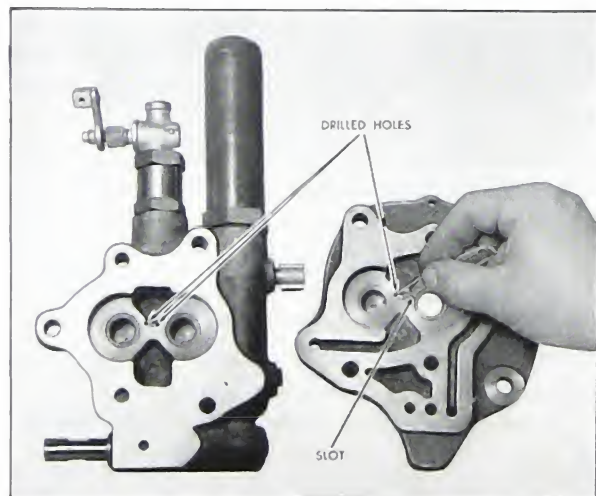

Fig. 5-84. Drilled holes for lubrication
Lubricating Holes: 1. With a small wire or punch, clean out the small lubricating holes to both sets of gear pockets in the Number 1 and Number 2 gear bodies. These holes not only supply lubrication to the shafts and gears, but also provide balanced pressure against the gears in their pockets to prevent scoring. See Fig. 5-84.
2. If old bodies do not have these drilled holes, drill them 1/16 x 45°, to break out at the bottom of the shaft holes. Also use a cape chisel to cut a slot from the pressure relief pocket to the drive shaft hole in No. 1 body as shown in Fig. 5-84 and as machined in late style housings.